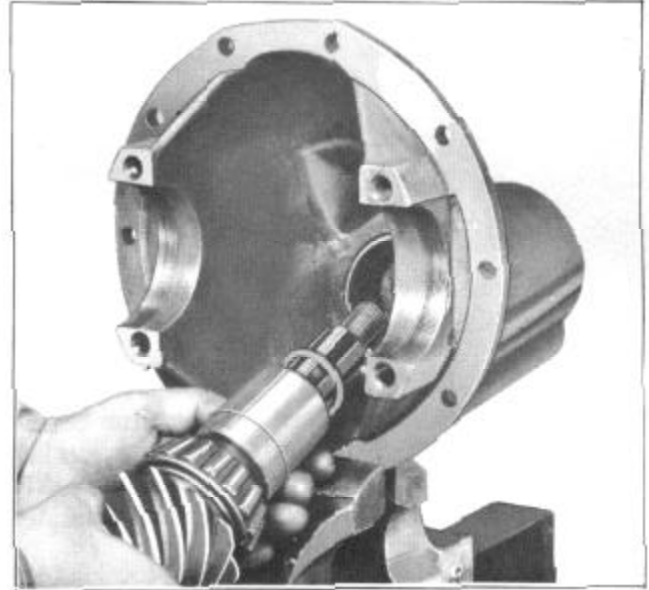

FIGURE 19
3. Pull out drive pinion, shims and bearing spacer, through rear end of differential carrier. See Figure 19.